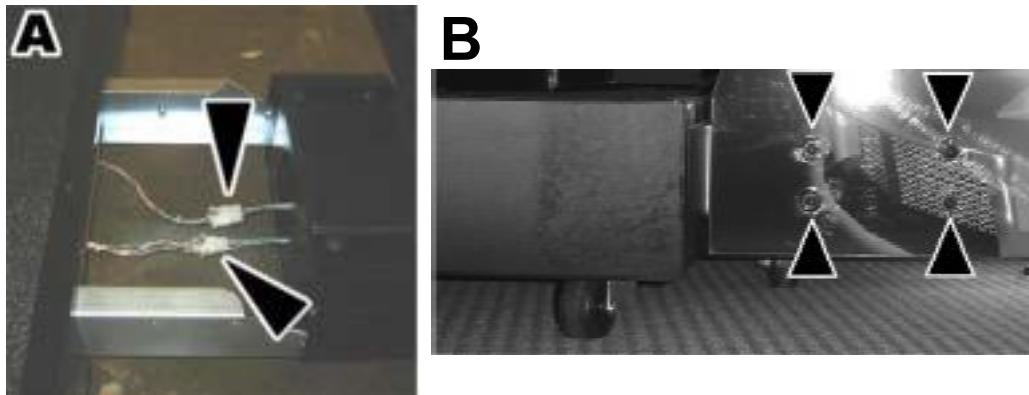

Figure 4. Attaching the Driving Seat to the Runners
5. Locate the two wire harnesses inside the driving seat, and inside the cabinet, near where the seat runners are installed. Connect the harnesses together as shown in item A of Figure 4. The connectors are keyed to prevent incorrect wiring.
6. Slide the driving seat towards the cabinet while guiding the wire harnesses inside. Attach each driving seat to the seat runners using four (4) 2-1/4" T-27 Torx screws with 1/4" lock washers and fender washers. See item B of Figure 4.